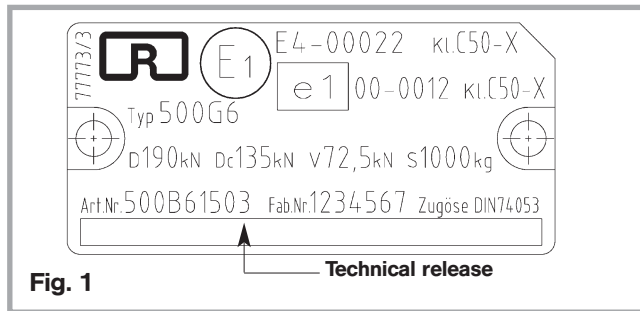
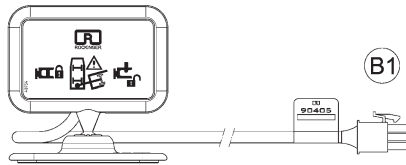

Fig. 1
Fig. 2
- Display with connecting cable and plug (Fig. 2).
- Loosen 3 screws (1) on lower holder (2)
- Screw protection (2a, only by series 500) remove lower holder (2) with guide bush (3), spring (4) and washer (5)
- Fit sensor washer (6, in original condition) in place of washer (5), with angle section facing downwards (see Fig. 1)
- Mount spring (4), guide bush (3) and lower holder (2) and screw protection (2a)
- Fit screws (1)
- Tighten screws (1), tightening torque **30 Nm**
- Pre-fit limit switch (7) to bracket (8) with 2 hexagon nuts (9) (see Fig. 2)
- Attach bracket to coupling unit with two screws (10), tightening torque **25 Nm** (see Fig. 2)